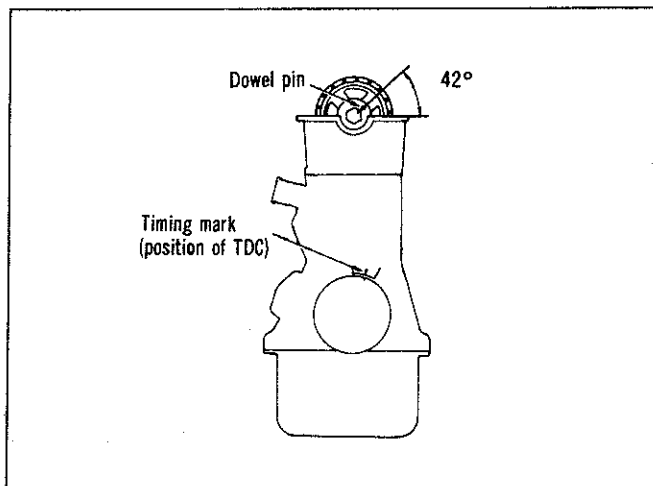

Fig. 4—Position TDC on No. 1 piston
(1) Disconnect the battery negative (ground) terminal.
(2) Drain the water from the radiator and cylinder block.
(3) Disconnect exhaust pipe from manifold.
(4) Disconnect throttle cable, kickdown linkage (if applicable), fuel supply line, vacuum hoses, electrical leads, radiator and heater hoses, etc.
(5) Manually rotate engine to the top dead centre position with No. 1 piston on the compression stroke.
(6) If the cylinder head is to be disassembled, the inlet and exhaust manifolds can be removed for easier handling of the cylinder head.
(7) Remove the rocker arm cover.
(8) Ensure that No. 1 piston is at top dead centre on the compression stroke by aligning the crankshaft pulley timing mark on the TDC "T" mark of the timing plate. The camshaft dowel pin should be in the position shown in Fig. 4.